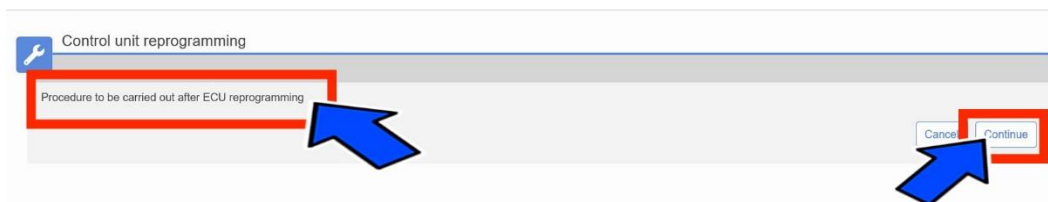

Figure 27 - Procedure to be Carried Out After ECU Reprogramming
- 22. Select “Procedure to be carried out after ECU reprogramming” and then click “Continue” (Figure 27).